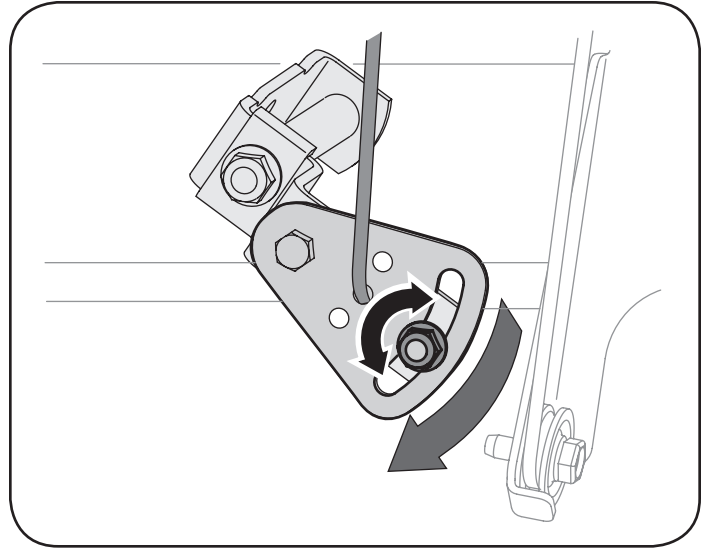

Figure 27
2. Loosen the hex nut on the shift cable index bracket. See Figure 27.